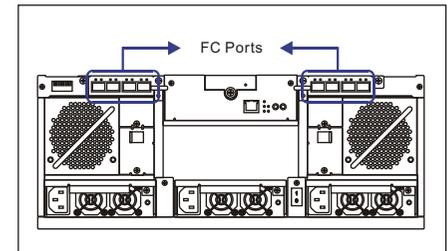

Figure 10: Locations of FC Ports
The A24F-G2224 comes with eight (8) FC ports on two (2) separate host I/O modules for host connectivity and daisy chaining (see **Figure 10**.) SFP transceiver modules and Fibre Channel optical cables are user-supplied items and should be purchased separately. By default, the onboard hub is enabled in both I/O modules. For more information on host connection and sample topologies, please refer to **Chapter 4** of the included **Installation and Hardware Reference Manual**.